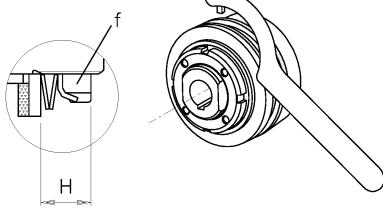

FIG. 10 : DF – GT
### **GHIERA CON BLOCCAGGIO A TACCHE "GT"** (Gr.00.25-5.170 ; FIG.10 pos.f)
### **NUT WITH NOTCHES LOCKING "GT"** (size 00.25-5.170 ; FIG. 10 pos.f)
**Quota H, molle a tazza, modello DF-GT Gr. 00.25 - 5.170 (FIG.10) / H dimension , axial springs, model DF-GT size 00.25 - 5.170 (FIG.10) :**